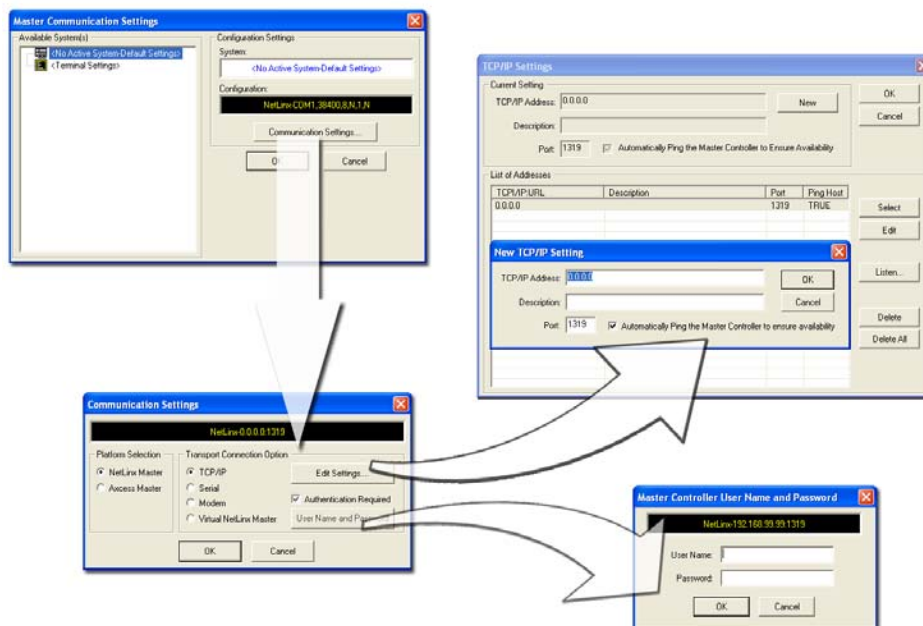

FIG. 96 Assigning Master Communication Settings and TCP/IP Settings
3. Select **Settings > Master Communication Settings** from the Main menu to open the Master Communication Settings dialog (FIG. 96).
7. Click the **Edit Settings** button (*on the Communications Settings dialog*) to open the TCP/IP Settings dialog (FIG. 96). This dialog contains a series of previously entered IP Address/URLs and their associated names, all of which are stored within Studio and are user-editable.